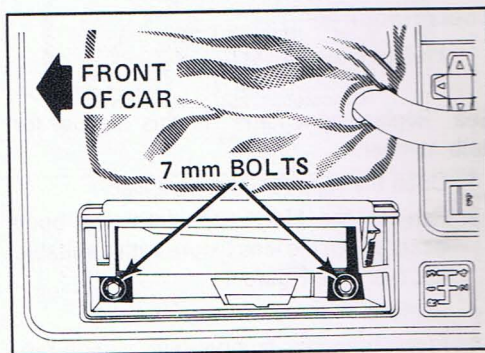

Figure 1 - Underneath ashtray (manual transaxle)
2. Using the nut driver, remove the 7mm bolts under **each** ashtray. See Figure 1.